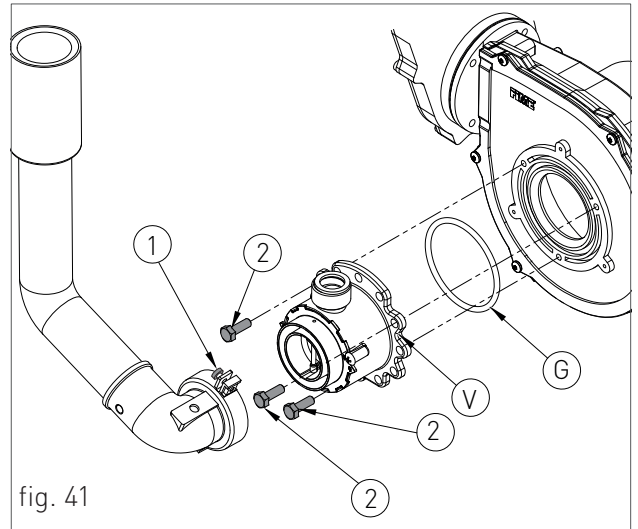
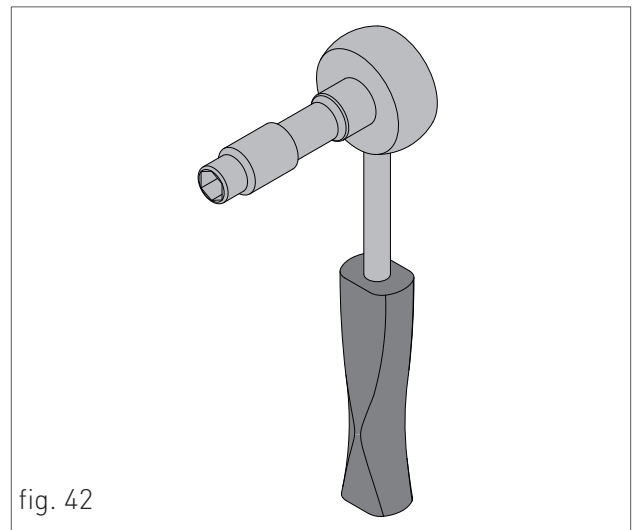

fig. 41
fig. 42
- › loosen the two screws '1' (fig.41) from the fastening bush, and remove the air suction tube;
- › unscrew the three fastening screws '2' (fig.41) of the venturi 'V' (fig.41) using a 10 key, as shown in figure 42;
- › remount the components following the demounting operations in reverse making sure that gasket 'G' is re-assembled as shown in fig.41;